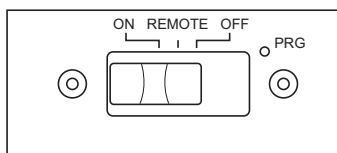

Figure 56 - Remote Selector Switch in ON Position
- Wait one minute and switch selector switch to the ON position to light burners (see Figure 56). When using in the ON position (without remote) burners will light on high. There is no adjustment to the flames without using remote.